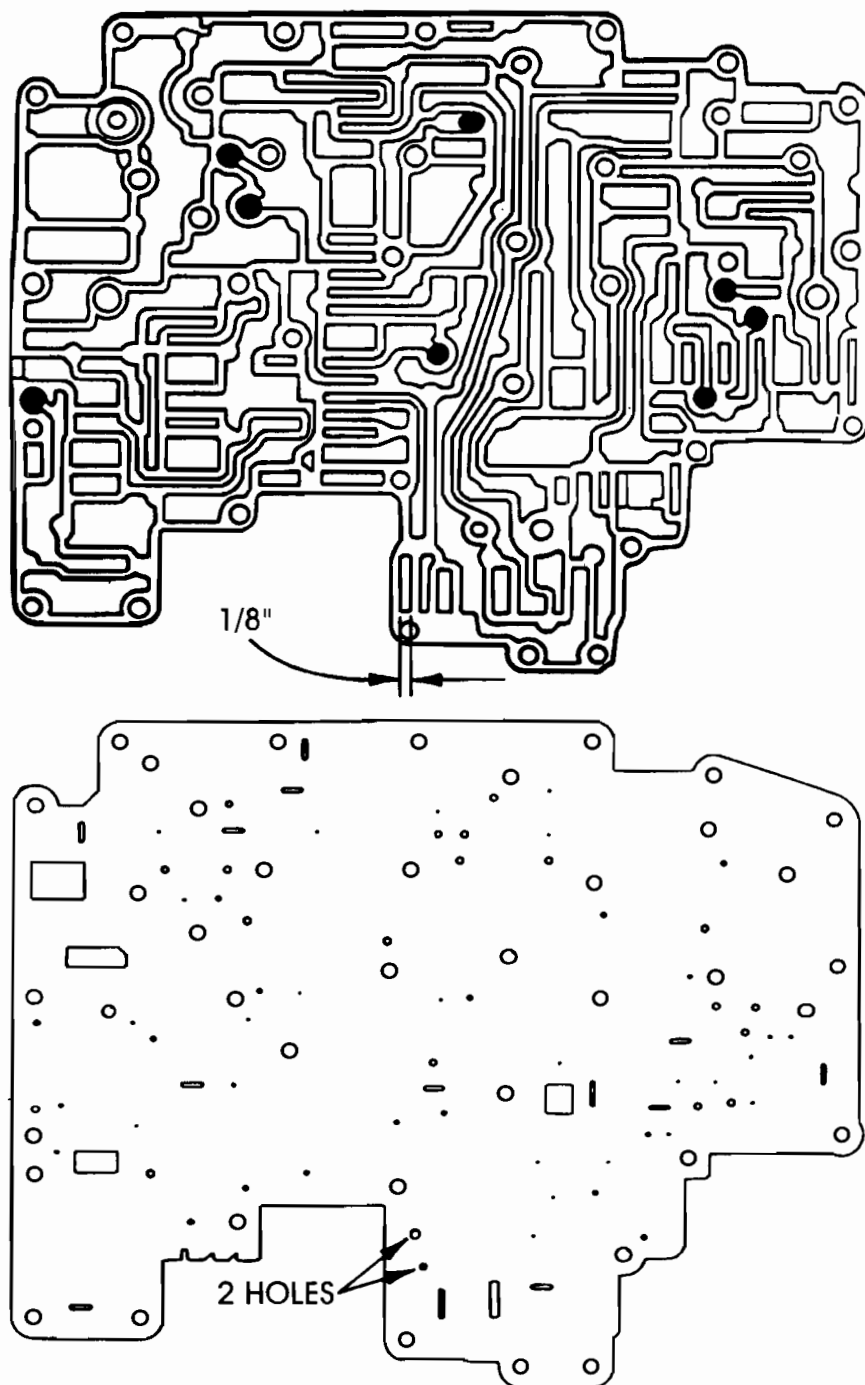

Figure 8
*Refer to Figure 8 for 1992 model valve body and spacer plate identification.*